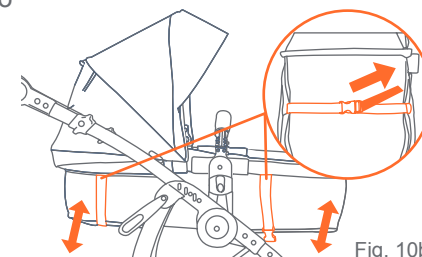

Fig. 10b
- **Upright and Reclined Position:** Buckle the footrest and headrest straps on the rear of the seat. Pull the excess straps to tighten the seat (Fig. 10b).
- **Carriage Position:** Make sure both footrest and headrest straps are loosened and extend the seat surround fully (Fig. 10b).